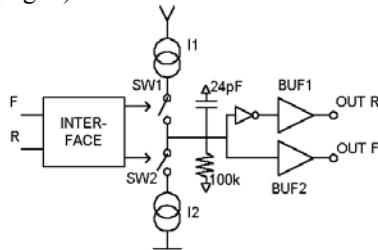
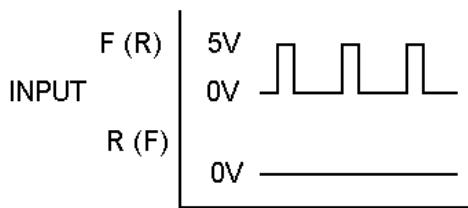
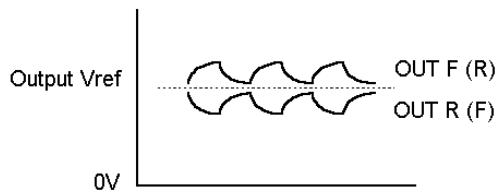

Fig. 1
Fig. 2
Fig. 3
(1) Fig. 2 shows the inputs from the digital servo IC for CH1-CH3 drivers (all drivers except the spindle). SW1 is on when the forward input signal (HIGH level, over 2.4V) is present. SW2 is on when the reverse input signal is present (Fig. 1). The constant current (I_1) at this time enters the RC and generates an integral waveform based on the duty of the input waveform. The BTL is output from BUF1 and BUF2 (Fig. 3).
This can be increased by inserting a capacitor between point A (pins 3, 11 and 18) and V_{REF} . The constant current (Iconst) given in the electrical characteristics refers to I_1 and I_2 in Fig.1.